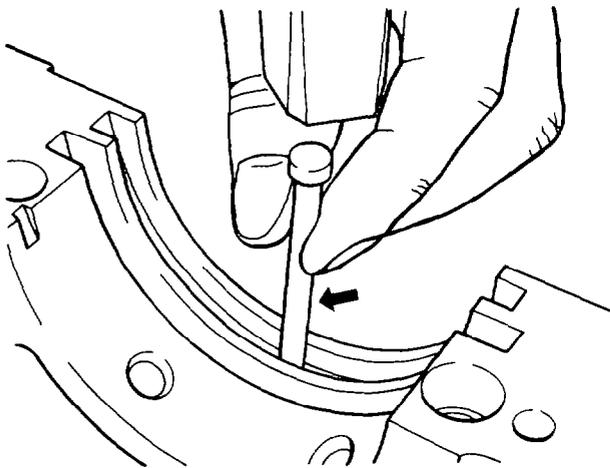

Figure 11 Main Seal Retaining Pin
- d. Install new retaining pins for the rear main seals into the crankcase and rear main bearing cap; a soft headed hammer may be used to drive the pins fully home (see Fig 11).